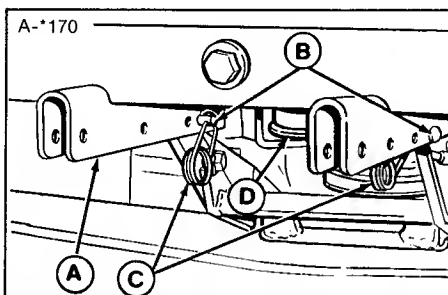

Figure 4. Mower Hitch Attached
9. Install the clips (C, figure 4) in the pins.